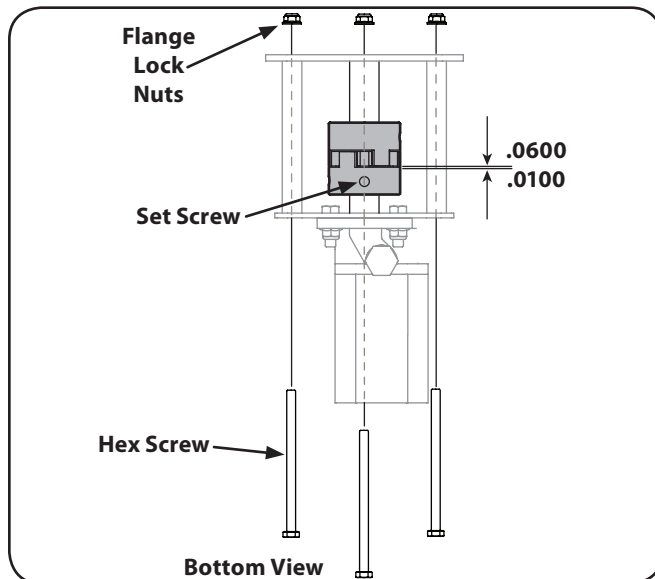

Figure 7-1
2. Remove the three flange lock nuts and hex screws that secure the pump to the coupling shield. Two flange lock nuts and hex screws are at the bottom corners and one is in the top center. See Figure 7-1.
11. Set .0100" to .0600" of a clearance/gap between the nylon "spider" and the engine coupling half by sliding a feeler gauge or matchbook cover between the nylon "spider" and the engine coupling half and moving the pump coupling half as needed. Secure the pump coupling half with the set screw. See Figure 7-1.